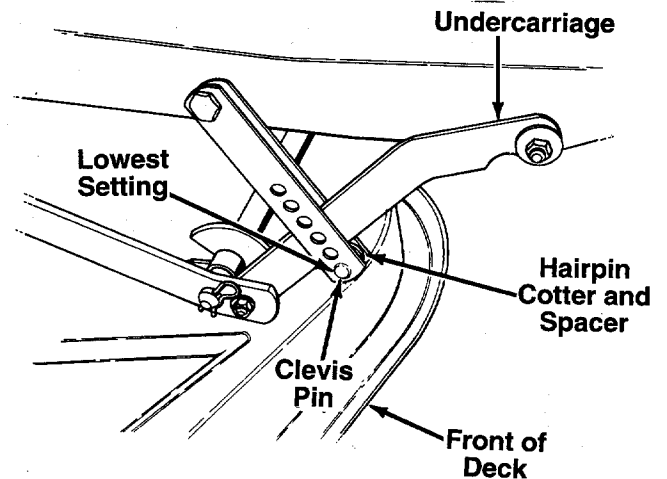

FIGURE 2.
1. The clevis pins, spacers and hairpin cotter on the front of the undercarriage must be set in the lowest position as shown in figure 2. Refer to "Undercarriage Locks" on page 17 of your tractor owner's guide if adjustment is required.
2. Remove the hairpin cotters, clevis pins and spacers from the undercarriage locks. Refer to figure 2.